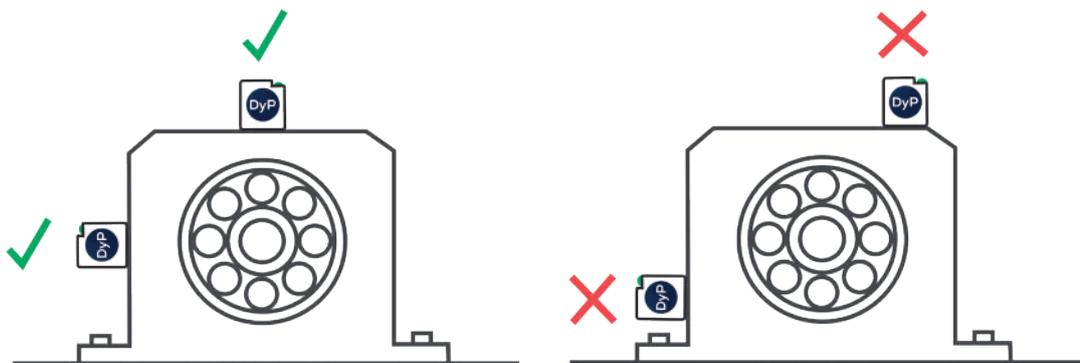

Figure 6 - Centralized positioning
2) The DynaLogger should preferably be centralized in relation to critical components, such as bearings. (Figure 6);